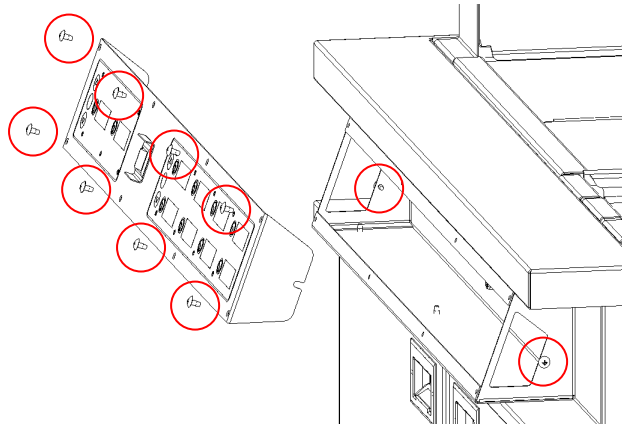

FIGURE 4A - Timer Box Cover
- Using a Phillips head screwdriver, unscrew all 8 screws on the timer front cover and loosen the 2 side screws (figure 4A). Carefully slide out the timer box front cover and lay it face down on a workable area. If necessary, disconnect power extension cable from the 2 display timer circuit board.